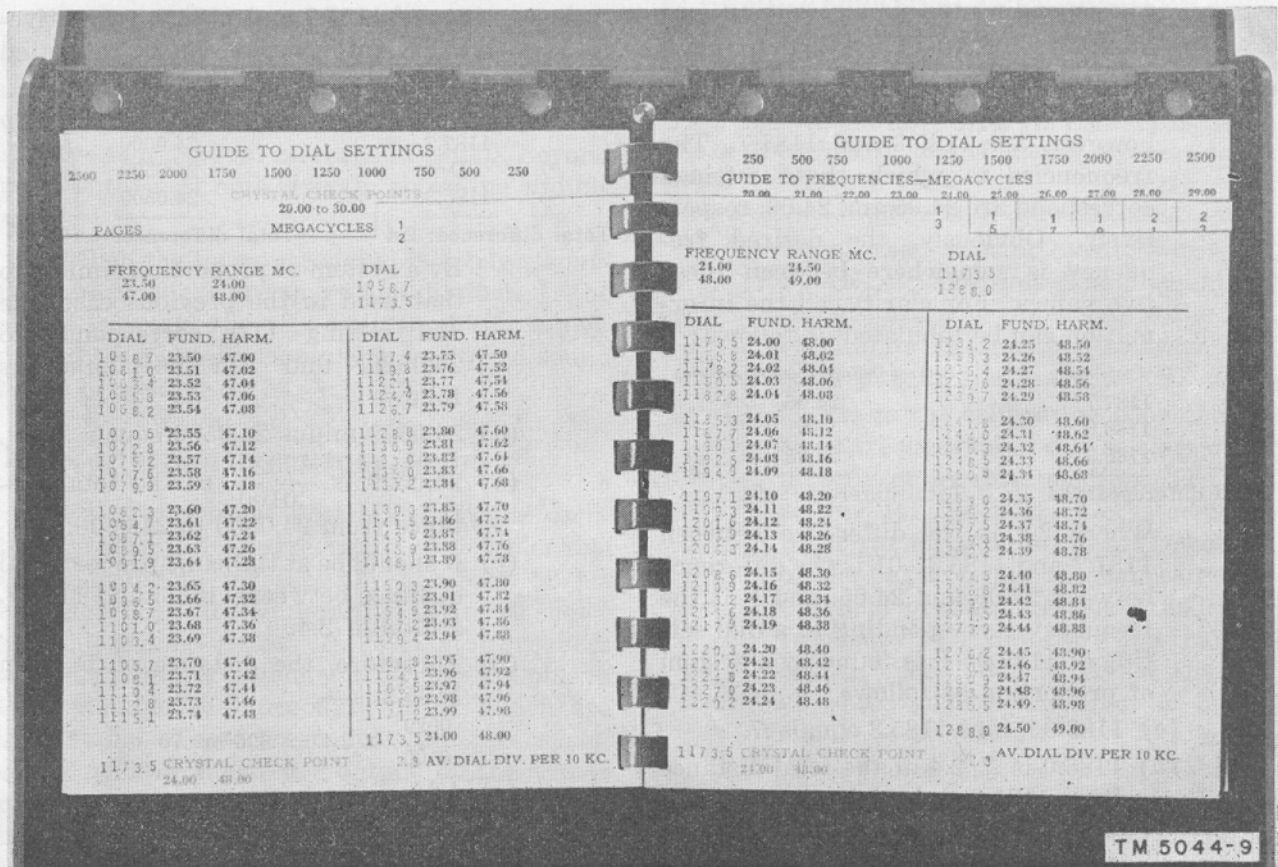

Figure 8. Frequency Meter TS-174B/U, calibration book.
(fig. 8)
- (1) *Large pages.* These pages contain—
- (2) *Smaller pages.* These pages contain—
- (a) *Page tabs.* The *guide to dial settings* and the *guide to frequencies—megacycles* can always be seen projecting above the other pages. The page number on the tabs appears beneath the guide numbers and indicates on what page a certain range of settings and the frequencies they represent can be found. For instance, in figure 8 the tab marked $\frac{1}{3}$ falls between 1000 and 1250 in the *guide to dial settings* and between 23.00
- (1) Turn the selector switch to the STANDBY position. The filaments of the vfo are now connected to the battery, allowing the tube to warm up. Also, plug in the headset.
- (2) Locate in the calibration book the desired frequency and dial setting either directly or by interpolation. The dial setting for the nearest crystal check point (printed in red) is at the bottom of the page. Using the figures of the previous problem, setting 1186.0 and frequency 24.0529 mc, we find that our crystal check point is 1173.5 (fig. 8), at which point a frequency of 24 mc should be produced.
- (3) After the set has warmed up for 15 to 20 minutes, turn the selector switch to CHECK. Both the crystal oscillator and the vfo circuits are now in operation.